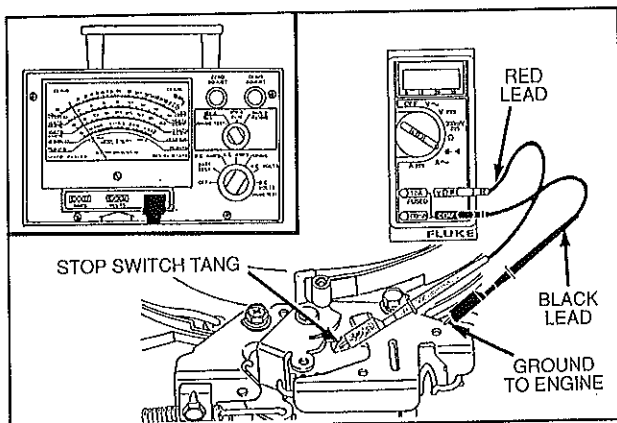
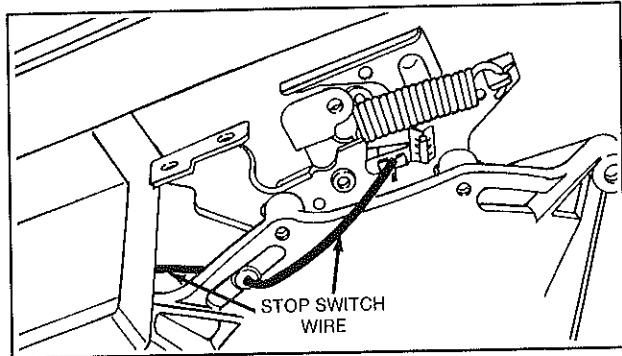

Fig. 13 - Attach Leads
Fig. 14 - Move Stop Switch Wire
Attach one meter lead to a good ground (unpainted bracket or engine surface). Hold other lead against stop switch tang, Fig. 13, while moving stop switch wire up and down, Fig. 14.
4. When meter test leads are attached as shown in Fig. 13, a continuous tone  $\text{}$  indicates continuity. No tone indicates no continuity (incomplete circuit). An incomplete circuit will be displayed as "OL."
5. When meter test leads are attached as shown in Fig. 13, the meter should read at, or close to, "0" on the OHMS scale.